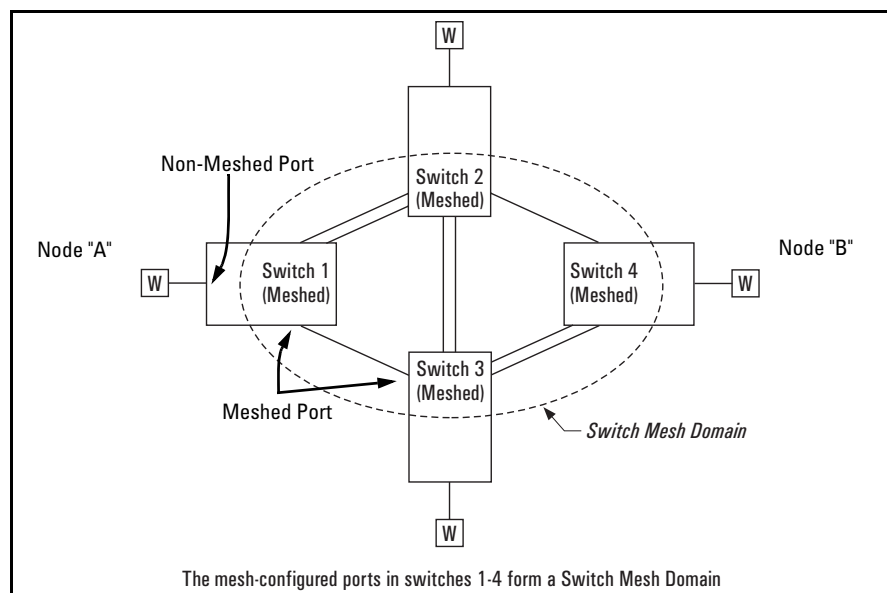

Figure 5-1. Example of Switch Meshing
- A switch mesh domain (figure 5-1 on page 5-2) cannot include either a switch that is not configured for meshing, or a hub.